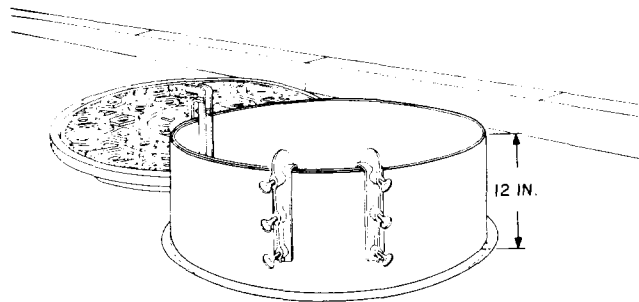

Fig. 3—Adjustable Manhole Shield
3.01 The adjustable manhole shield, illustrated in Fig. 3, is painted red. One end of the shield is equipped with two clamps. The shield is designed to fit circular manhole frames 24 to 36 inches in diameter. The ends of the shield overlap and the desired size is obtained by increasing or